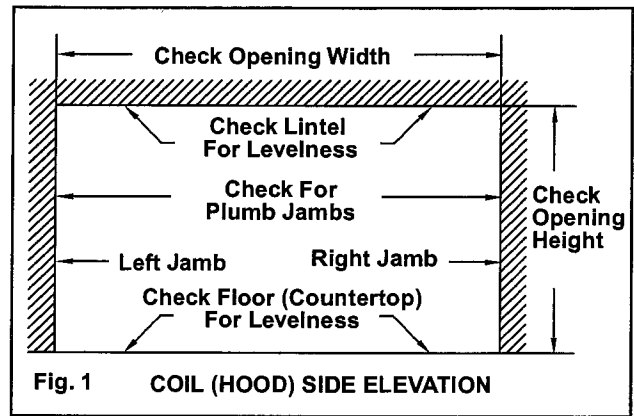

Fig. 1 COIL (HOOD) SIDE ELEVATION
- The dimensions for the opening width, height, head room, and side room. (FIG. 1)
Check the opening width and the opening height and compare with the supporting documentation to be sure the opening is the proper size for the shutter. Small variations in the actual opening width or height, or plumbness of the jambs can be ignored when installing the wall angle extrusions and guides. Verify that adequate clearances are available. (FIG. 1)